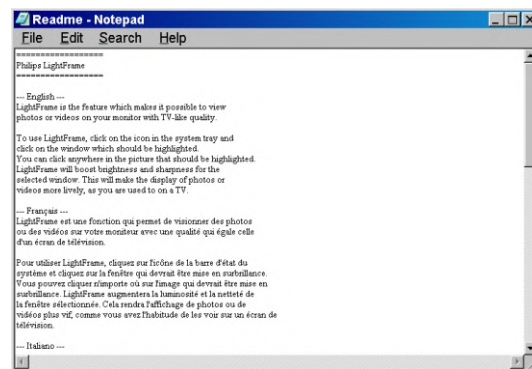
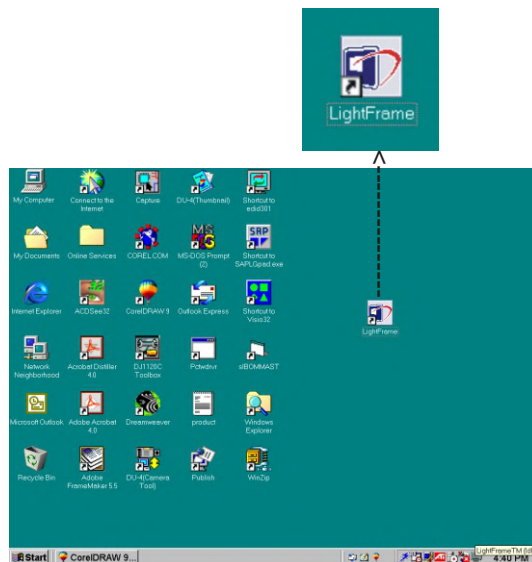

Fig 10
Fig 11
9. Click Finish, bring up Fig. 10 & Fig 11 on the desktop.